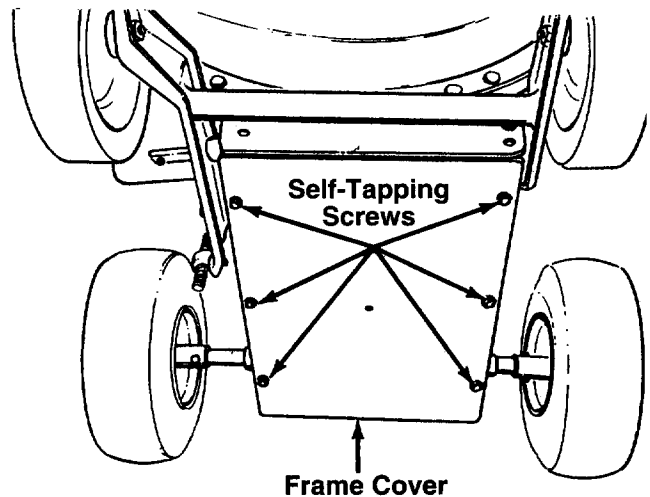

FIGURE 23.
- Remove the frame cover by removing eight self-tapping screws from underneath the chipper vacuum. See figure 23. (Only six of the eight screws are shown in the figure.)